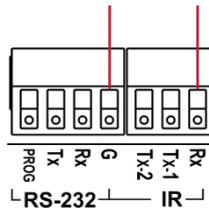

Figure 9: Connecting IR Controller
- Connect the controller IR output to the **WP-789T** IR terminal block as illustrated in Figure 9.